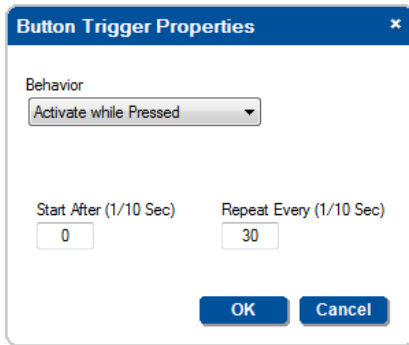

Figure 133: Button Trigger Properties Window (Activate while Pressed)
- **Activate while Pressed:** the trigger is activated again and again as long as the button is pressed. You can set the trigger delay time (**Start After...**), as well as the repetition delay time (**Repeat Every...**), see Figure 133. Note that time is set in 1/10th of a second intervals